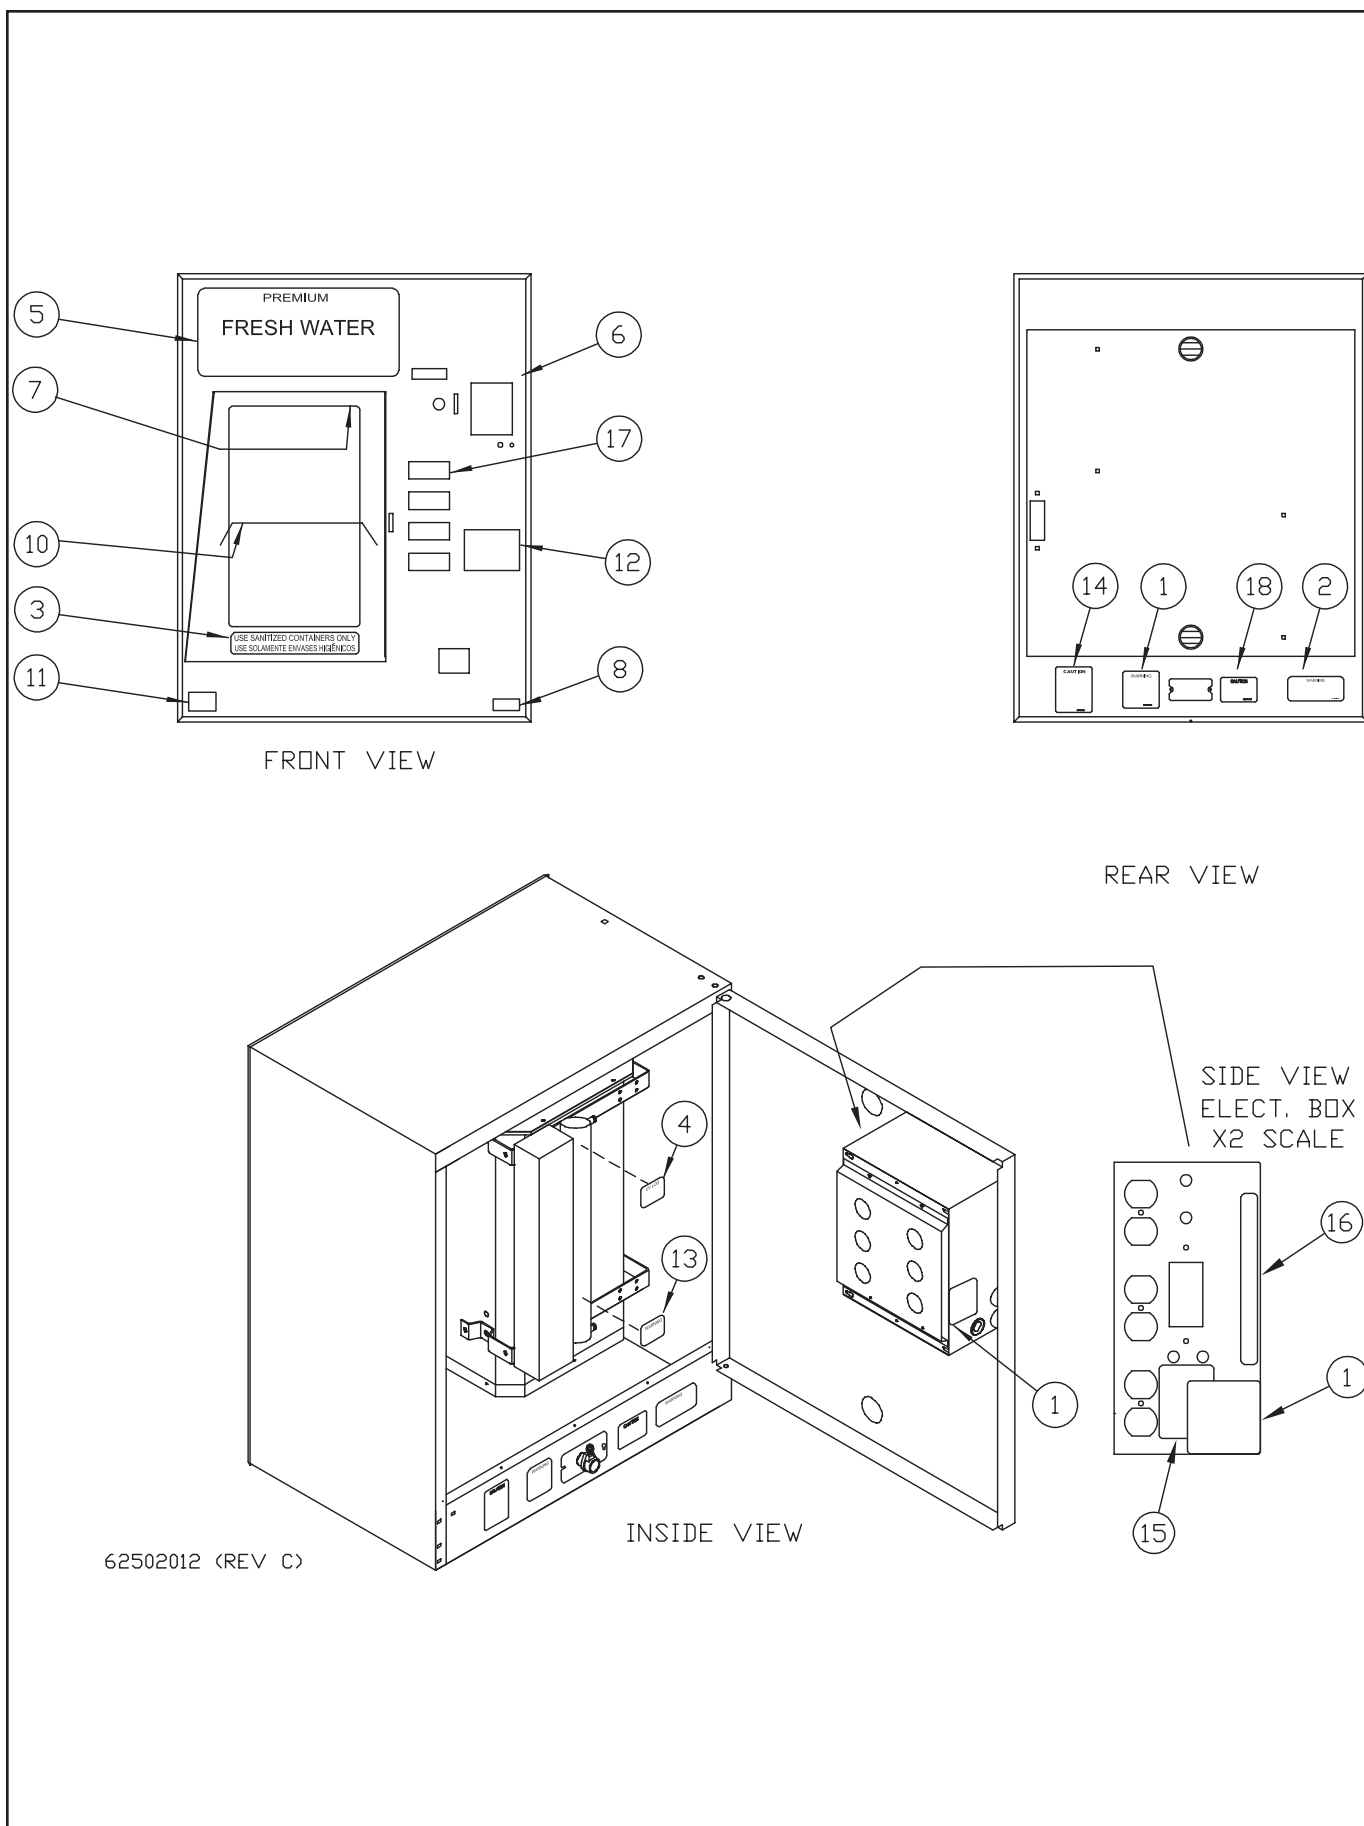

FIGURE 1
1. Decal 62502954 located on inside and on rear (Figure 1).
2. Decal 625-002-084 located on inside and on rear (Figure 1).
4. Decal 62502938 service log decal located by ultraviolet light (Figure 1).